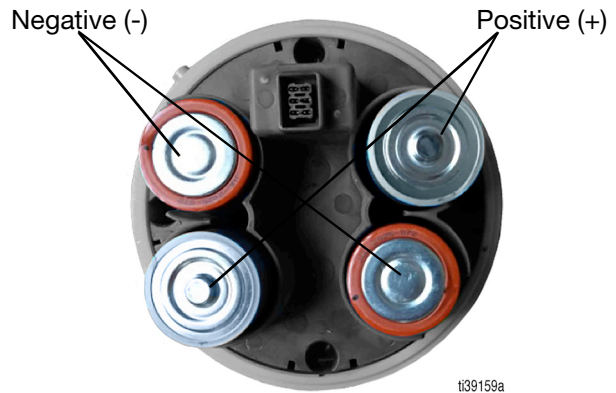

FIG. 8
4. Replace the four (4) C-cell Alkaline batteries (FIG. 8).